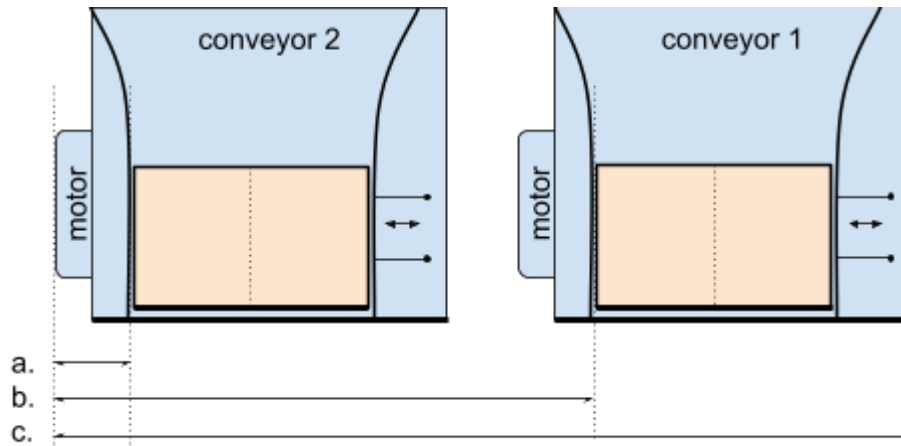

Figure 77: Measure the conveyor dimensions as if they were one big conveyor.
- Fixed guide width for conveyor 2, measured as in **figure 77**.
- Fixed guide width for conveyor 1, measured as b in **figure 77**.
- Measure *conveyor total width* from the left side of the left conveyor to the right side of the right conveyor. See total width for both conveyor 1 and 2, measured as c in **figure 77**.